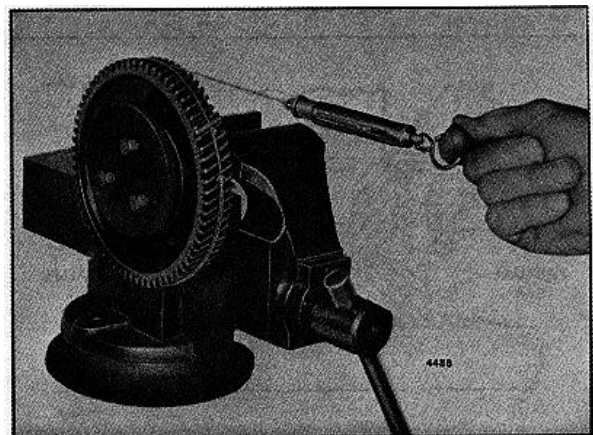

FIG. 8 - Checking idler Gear Bearing Pre-Load
4. Tie one end of a piece of lintless 1/8" cord around a 1/8" round piece of wood (or soft metal stock). Place the wood between two of the gear teeth and wrap the cord around the gear several times as shown in Fig. 8. Attach the other end of the cord to a spring scale J 8129. Maintain a steady pull on the cord and scale, 90° to the axis of the hub, and note the pull, in pounds and ounces, required to start the gear rotating. Make several checks to obtain an average reading. If the pull is within 1/2 lb. minimum to 4 lbs. maximum, and does not fluctuate more than 2 lbs. 11 oz., the idler gear and bearing assembly is satisfactory for use.
3. Clamp the idler gear assembly and fixture in a vise (Fig. 8).
4. Attach a cord to the idler gear and spring scale and check the bearing pre-load as outlined in item 4 above.
5. If previously removed, install the idler gear hole spacer (dummy hub - Fig. 8). Secure the spacer to the cylinder block with a 1/2"-13 bolt and special washer. Tighten the bolt to 80-90 lb-ft (108-122 Nm) torque.